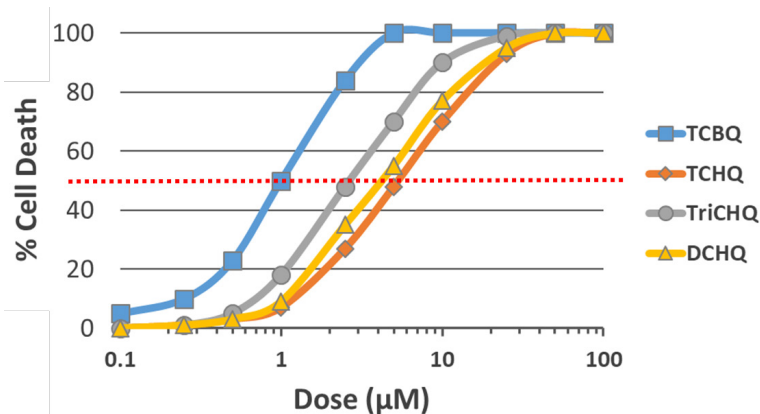

Figure 2B. Dose response curve.
8. You have improved the efficiency of the rate limiting step, but now your strain of *S. chlorophenolicum* has a much lower growth rate in the presence of PCP. Suspecting toxicity of PCP metabolism intermediates, you performed lethal dose curves with each of the metabolites (note that the dose is in log scale). Use Figure 2B below to complete Table 3B below of approximate LD₅₀ values. Remember, an LD₅₀ is the concentration of a toxin that results in 50% cell death.